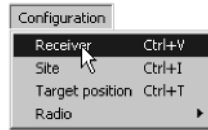

Figure 2-12. Configuration->Receiver
2. Once connected, click **Configuration->Receiver** (Figure 2-12).